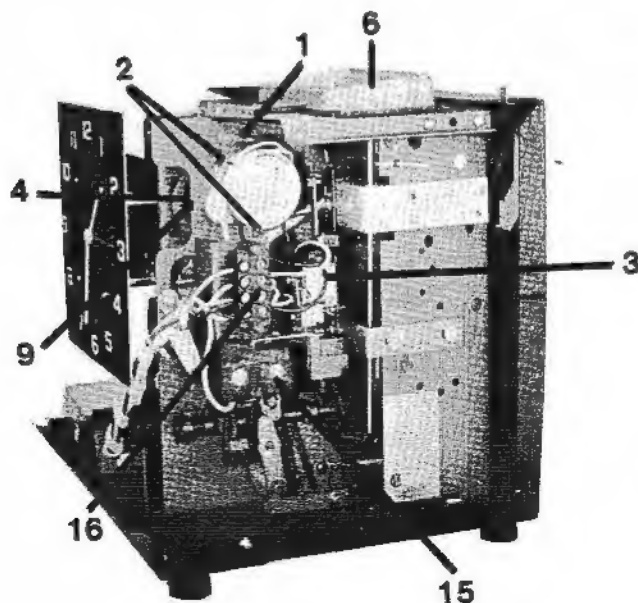

Figure 1
The following reference points are indicated on Figures 1 and 2:
10. Check that synchronized type wheels and clock face show correct time. If they do not, turn the Main Setting Wheel (4, Fig. 1) until the recorder displays correct time.
3. With type section removed, locate the Main Setting Wheel (4, Fig. 1). Turn the setting wheel clockwise until the numeric tenths type wheel increments to "0". This advances the hour wheel to correct position and synchronizes the hour, tenths, and decimal wheels at 00 minutes.